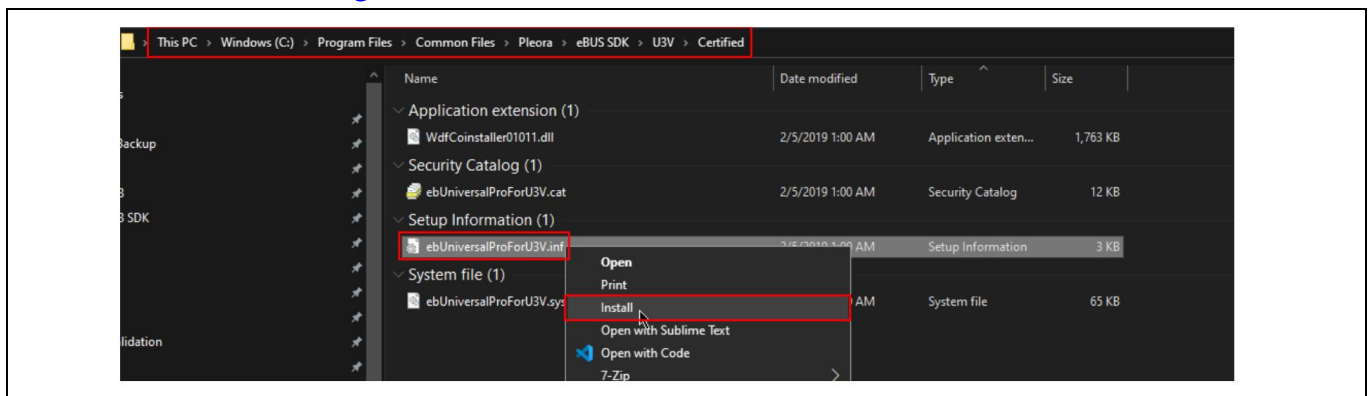

Figure 12 Installing driver for USB3 Vision player (eBUS player)
- If FX3 is not detected, go to “C:\Program Files\Common Files\Pleora\eBUS SDK\U3V\Certified” and install the U3V driver as shown in **Figure 12**.